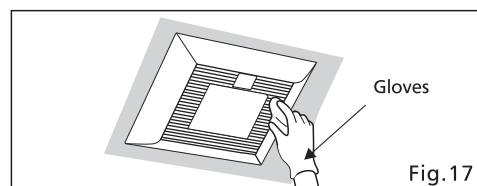

Fig.17
1. Clean grille. (Don't put into hot water. Use non-abrasive kitchen detergent, wipe dry with clean cloth)(Fig.17)